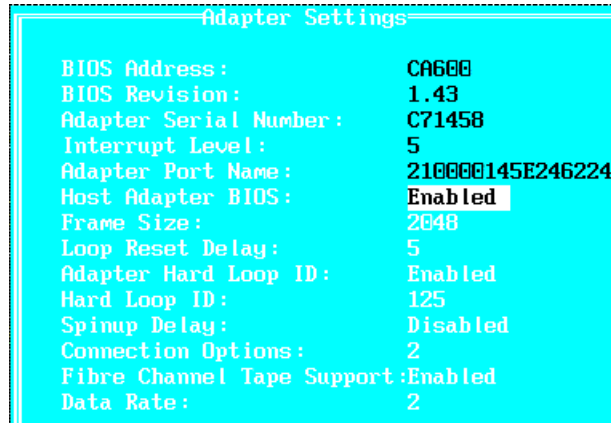

Figure 2-2 Host Adapter BIOS enabled
4. Select **Configuration Settings ... Host Adapter Settings** and then change the Host Adapter BIOS setting to **Enabled**. The default value is Disabled. This is shown in Figure 2-2 on page 35.